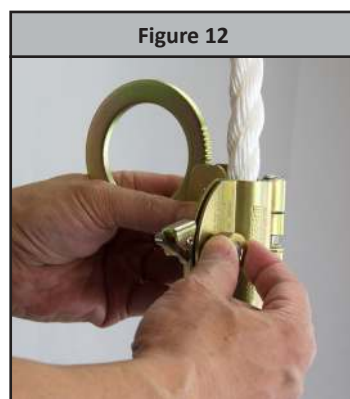
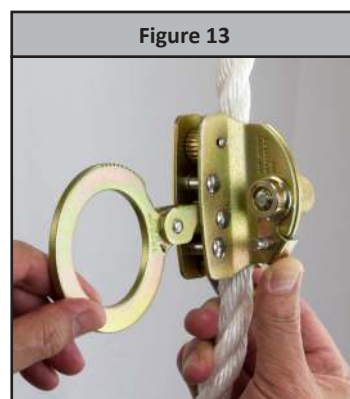

Figure 12
Figure 13
Step 6: Screw the lock knob back in until tight. See Figure 12. Rotate the safety latch all the way down. See Figure 13.